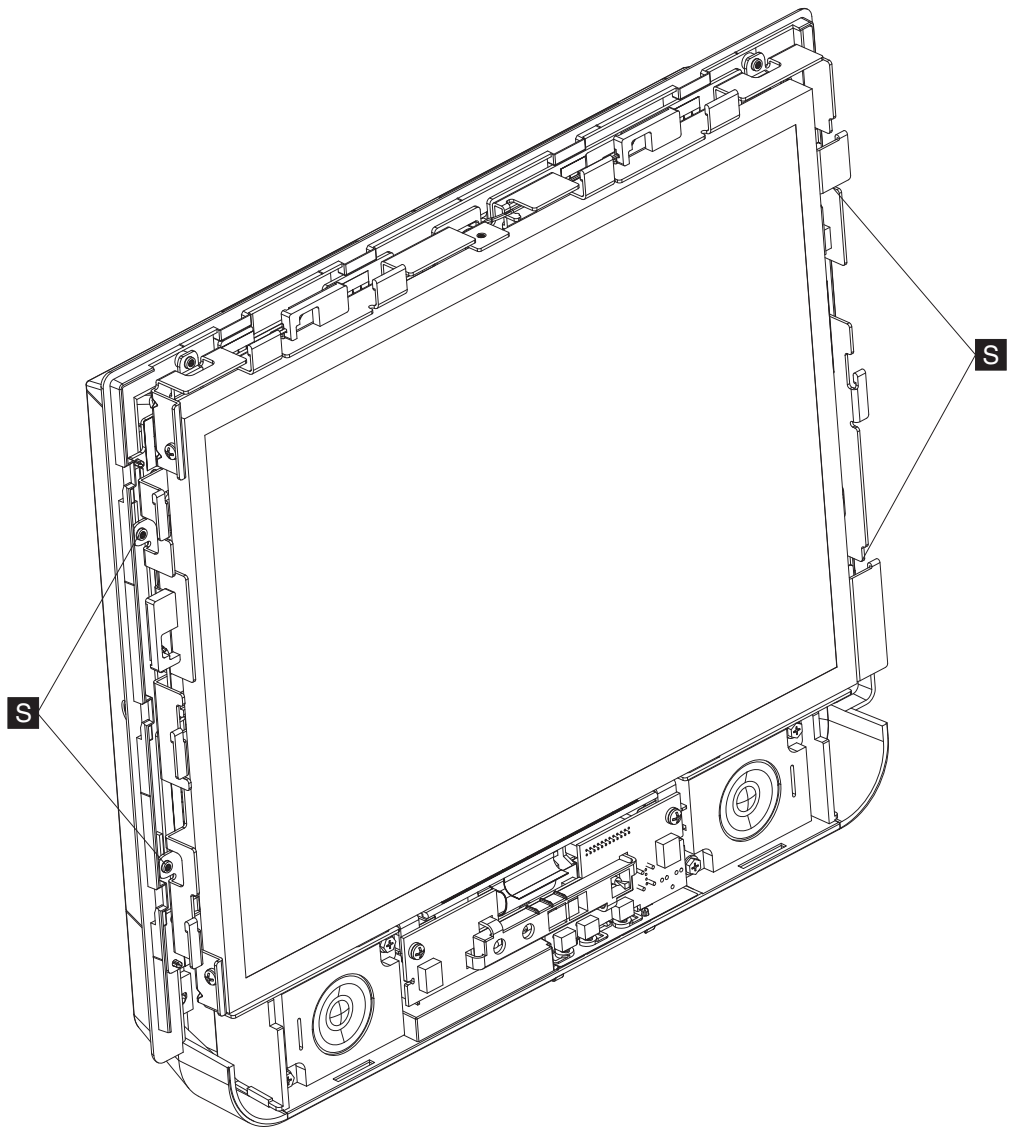

Figure 34. Removing the LCD
3. Remove the four non-captured screws (**S** in Figure 34) that hold the LCD to the LCD shield.